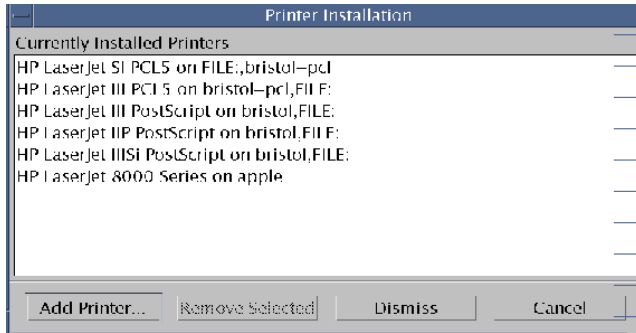

Figure B-3. Printer Installation Dialog Box
- 3. **Click *Install*.** This displays the Printer Installation dialog box (Figure B-3).